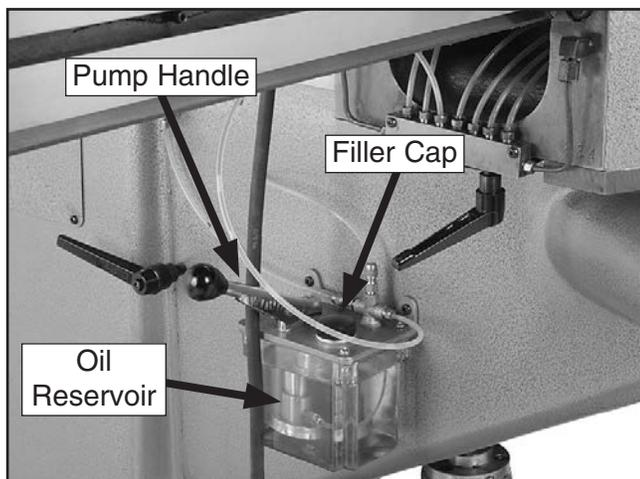

Figure 55. Model G9901/G9902/G9903 one shot oiler.
2. To pump lubricant to the X, Y, and Z-axis table ways, and the X and Y-axis lead screws, press down on the pump handle and release it (see **Figure 55**).